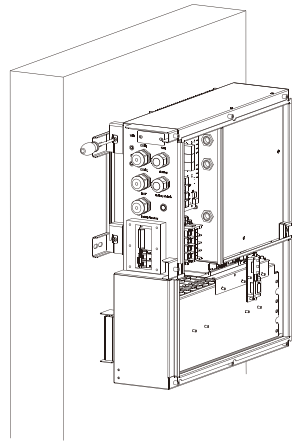

Figure 2.12 Fix SMILE-B3 to the Wall Bracket
Step 7 Use a T20 screwdriver and M4*12 screws in the package to fix Smile-B3 to the wall bracket, as shown in Figure 2.12.